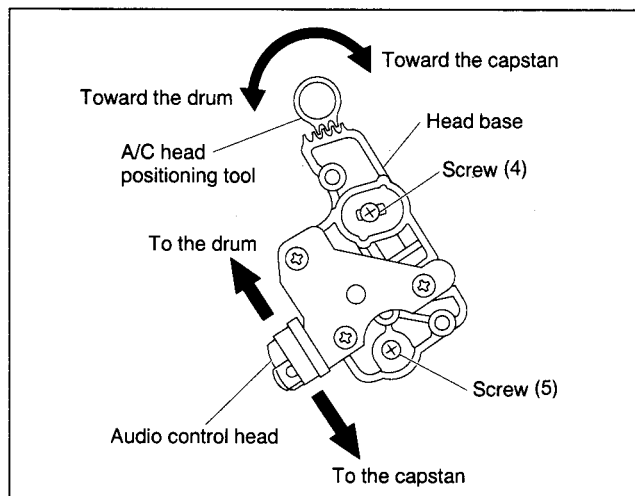

Fig. 2-3-6
- (1) Play back the alignment tape (A1).
- (2) Apply the external trigger signal to D.FF (E), to observe the V.PB FM waveform at the measuring point (D).
- (3) Press the channel buttons (+, -) simultaneously to enter the manual tracking mode. (This also brings tracking to the centre.)
- (4) Loosen the screws (4) and (5), then set the A/C head positioning tool to the innermost projected part of the A/C head. (See Fig. 2-3-6.)
- (5) Turn the A/C head positioning tool fully toward the capstan. Then turn it back gradually toward the drum and stop on the second peak point position of the V.PB FM waveform output level. Then tighten the screw (4) temporarily.
- (6) Then play back the alignment tape (A2).
- (7) Press the channel buttons (+, -) simultaneously to enter the manual tracking mode. (This also brings tracking to the centre.)
- (8) Perform the tracking operation and make sure that the V.PB FM waveform is at its maximum.
- (9) If it is not at maximum, loosen the temporarily tightened screw (4) and turn the A/C head positioning tool to bring the A/C head to a position, around where the waveform reaches its maximum for the first time. Then tighten the screws (4) and (5).